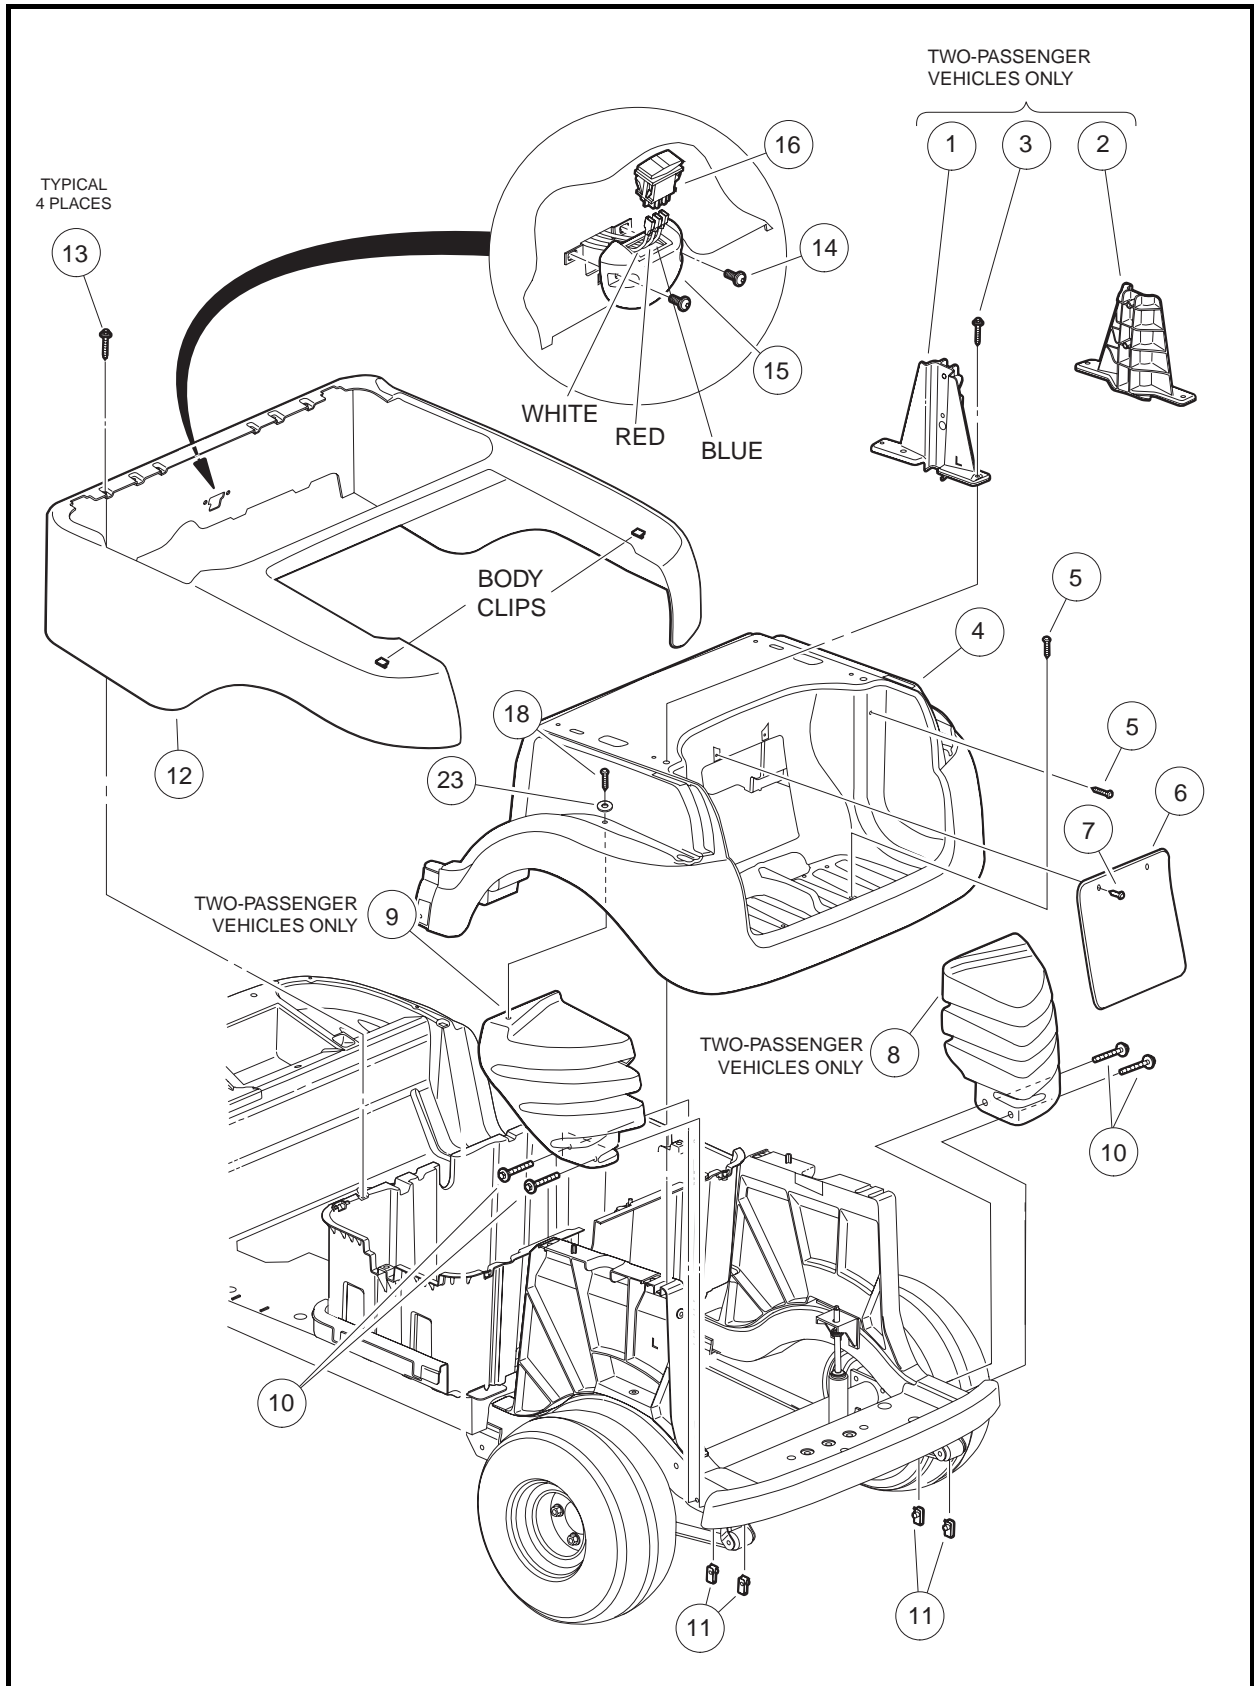

Figure 4-8 Rear Body Components
2. Remove one screw (3) from each canopy support bracket (1 and 2) (**Figure 4-8, Page 4-11**). Remove canopy supports.
3. Remove four screws (13) attaching the rear beauty panel (12) to the fuel bucket.
4. Remove two screws (14) and remove Forward/Reverse switch housing (15) from vehicle.
5. Disconnect electrical wires from the Forward/Reverse switch (16).
1. Install rear beauty panel (12) on vehicle. Make sure body clips on the rear of the beauty panel engage the mating slot in the rear underbody. Secure beauty panel in place with four screws (13). Tighten screws to 3.7 ft-lb (5 N·m) **(Figure 4-8, Page 4-11)**.
2. Connect the three wires to the Forward/Reverse switch (16) as shown.
3. Position the Forward/Reverse switch housing (15) on the front of beauty panel (12) and secure with two screws (14). Tighten screws to 20 in-lb (2.3 N·m).
4. Position canopy support brackets (1 and 2) on vehicle and secure each with one screw (3). Tighten screws to 53 in-lb (6 N·m).
Access panel (6) is secured to the rear underbody (4) with two expanding screws (7) **(Figure 4-8, Page 4-11)**. When replacing the panel, tighten screws (7) enough to hold the panel in place.
1. Remove four screws (5) attaching the rear underbody (4) to vehicle **(Figure 4-8, Page 4-11)**.
2. Remove two screws (18) and washers (23) that attach the underbody to the two liners (8 and 9).
3. Lift the rear edge of the rear underbody (4) until the front portion slides out from beneath the front underbody. Remove the rear underbody from the vehicle.
1. Install rear underbody (4) on the vehicle **(Figure 4-8, Page 4-11)**. Install two washers (23) and screws (18) to secure the underbody to the two wheel liners (8 and 9) and install four screws (5) to secure the underbody to the vehicle. Tighten screws (5 and 18) to 3.7 ft-lb (5 N·m).
1. Remove bolts (10) to release liners (8 and 9) from vehicle **(Figure 4-8, Page 4-11)**.
2. Remove four screws (13) attaching the rear beauty panel (12) to the fuel bucket (**Figure 4-8, Page 4-11**).
3. Remove two screws (14) and remove the Forward/Reverse switch housing (15) from vehicle.
4. Disconnect electrical wires from the Forward/Reverse switch (16).
2. Lift the rear edge of the rear underbody (4) until the front portion slides out from beneath the front underbody. Remove the rear underbody from the vehicle.
1. Install rear underbody (4) on the vehicle **(Figure 4-8, Page 4-11)**. Install four screws (5) to secure the underbody to its vehicle. Tighten screws (5 and 18) to 3.7 ft-lb (5 N·m).